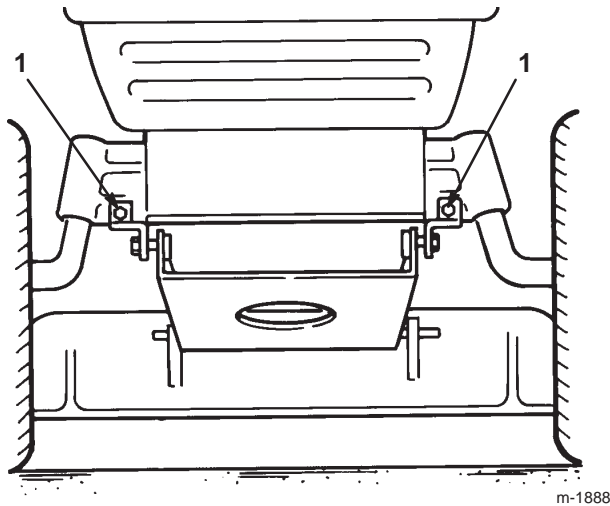

Figure 34
14. Pull the 2 mower pivot mount brackets down from the front axle (Fig. 34).